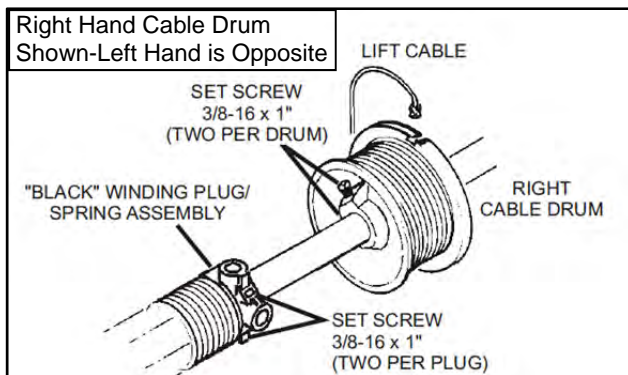

Figure 50
- Remove the cable from the cable drum and the door assembly. (See Figure 50)